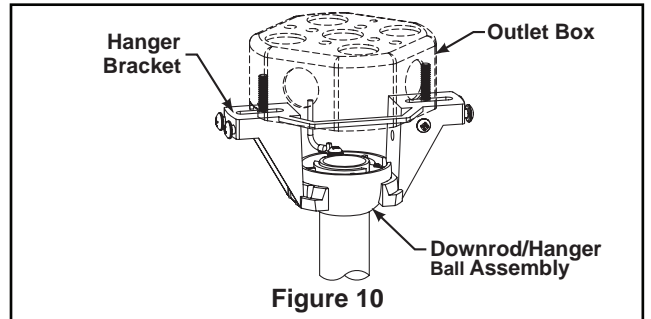

Figure 10
- Carefully lift the fan and seat the downrod/hanger ball assembly on the hanger bracket that was just attached to the outlet box. Be sure the groove in the ball is lined up with tab on the hanger bracket. (Figure 10)